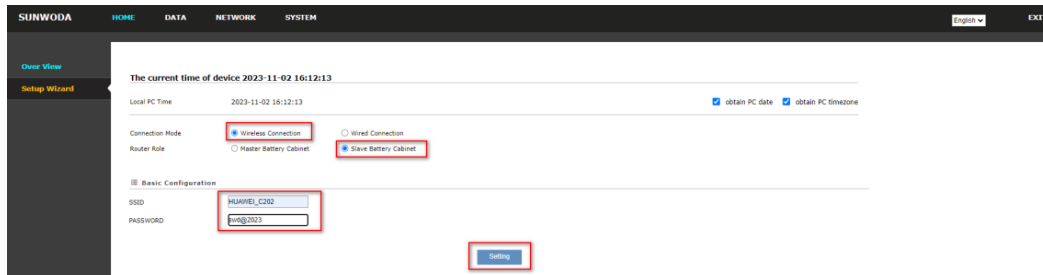

Figure. 4.14
(9) Connect the LAN port of the control box from No.2 slave cabinet to the network port of the PC through the RJ45 network port connector (8P), open the Google Chrome browser and enter the URL 192.168.5.5, user name: user, password: password.
(10) Set the battery cabinet into the network in the following page: wireless, slave cabinet, and enter the LAN WIFI name and password emitted from the master cabinet in step (5) below, click Set (Fig.4.14). After completion, if prompted to restart the device, please be patient. After successful setup, the IP automatically jumps to 192.168.6.5.